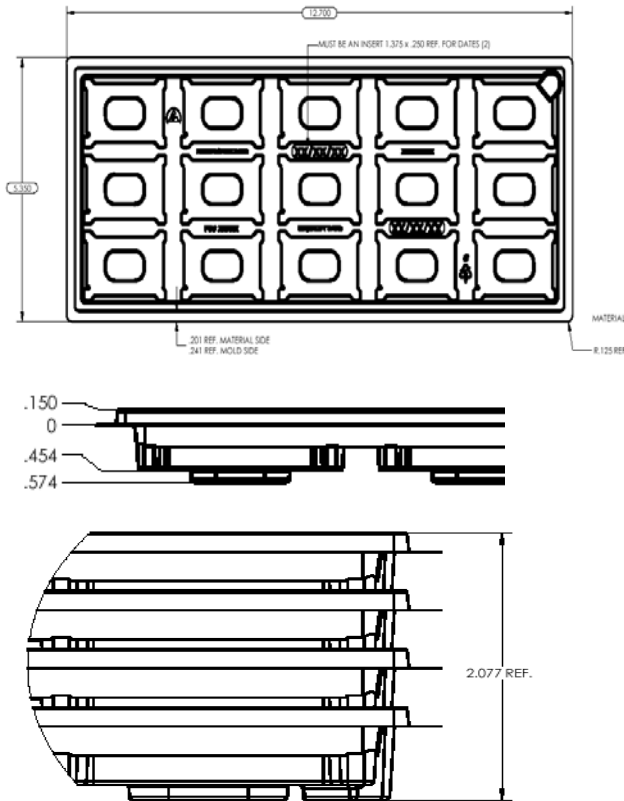

Figure 30. Surface Mount Packaging Tray
The surface mount versions of the NXA025-S series modules are supplied as standard in the plastic tray shown in Figure 30. The tray has external dimensions of 136mm (W) x 322.6mm (L) x 18.4mm (H) or 5.35in (W) x 12.7in (L) x 0.72in (H).